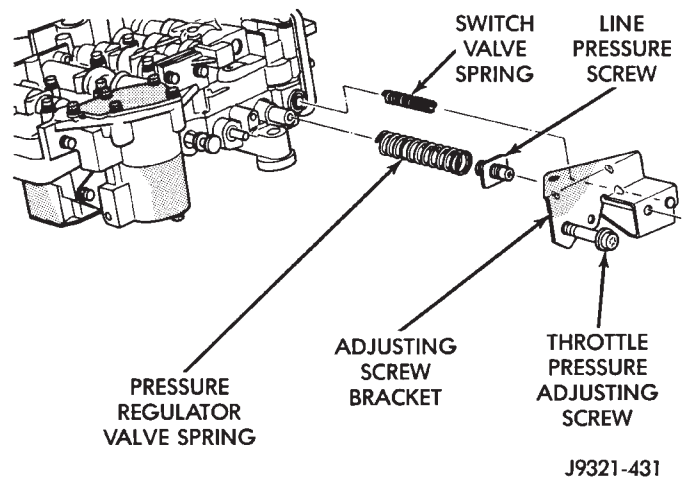

Fig. 60 Adjusting Screw Bracket And Spring
(20) Remove adjusting screw bracket, line pressure adjusting screw, pressure regulator valve spring and switch valve spring (Fig. 60). **Do not remove throttle pressure adjusting screw from bracket and do not disturb setting of either adjusting screw during removal.**